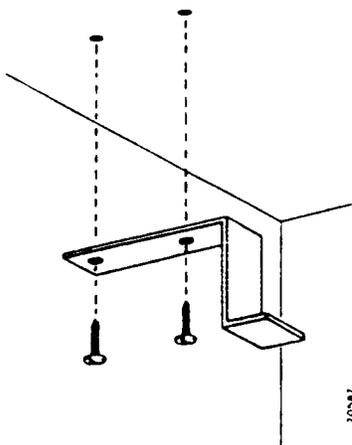

Figure 9 Securing plastic support bracket
9. Attach the plastic support bracket to the top with 2 screws removed in step D8 (see figure 9).